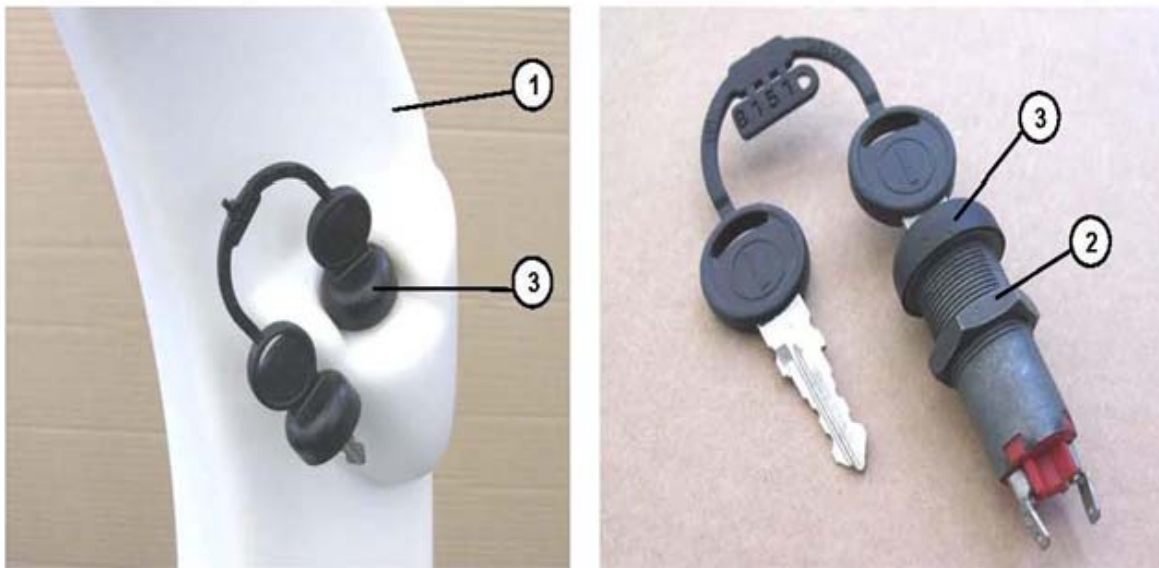

Figure 11-5
2. Operating from inside the steering column (1, **Figure 11-5**), loosen the lock nut (2) and remove the ignition key (3).